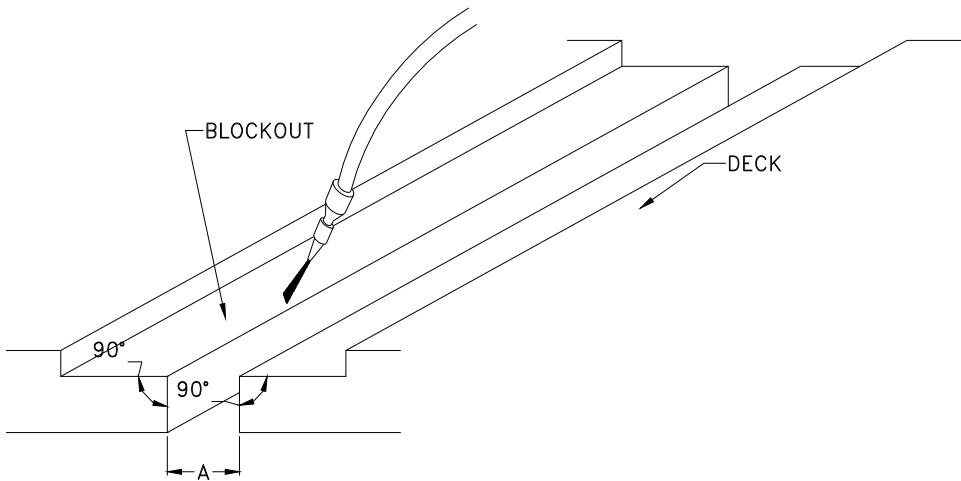

Figure 3
- E. The expansion joint blockout and opening should be sandblasted to remove laitance, loosely bonded material and any other contaminants, which may inhibit bonding of the system to the concrete (see Figure 3). Should sandblasting not be feasible, the surfaces must be ground with a coarse wheel disc grinder to produce an abraded surface. Care must be taken not to polish the concrete surface, as this can lessen adhesion. After sandblasting, or abrading, blow out the area with an air compressor fitted with an oil trap; this will eliminate the possibility of recontamination from oil and moisture in the lines.